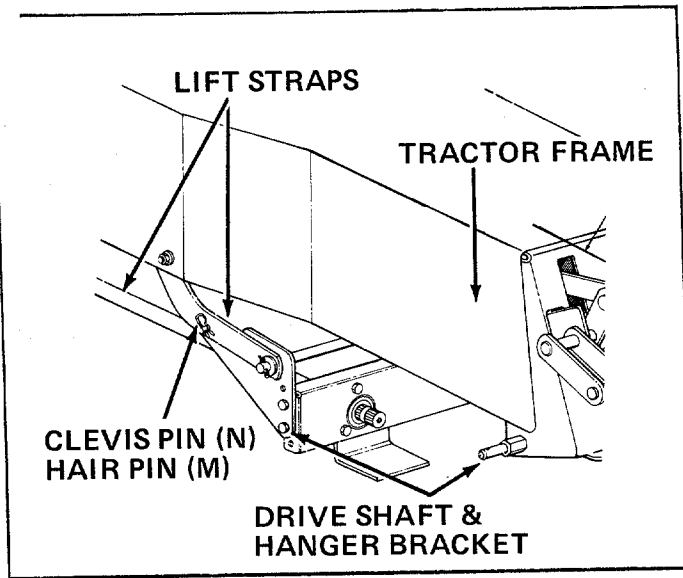

FIGURE 16
- Secure drive shaft and hanger brackets to linkage kit as shown in figure 16. Clevis pins (N) and hair pins (M) are assembled through the hanger brackets and both lift straps.